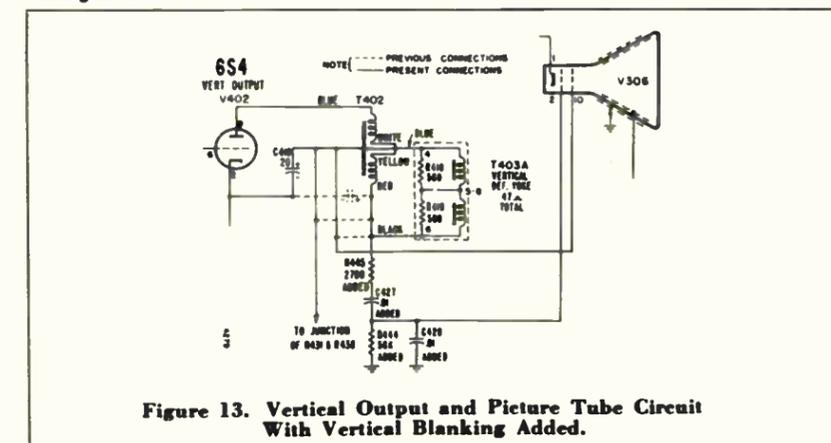

Figure 13. Vertical Output and Picture Tube Circuit With Vertical Blanking Added.
3. Disconnect the red wire and the bare wire from their common junction point. Reconnect both of these leads to the junction of the 7.5 ohm winding and the 100 ohm winding of T402 (common point of the white and yellow leads). See figure 13.